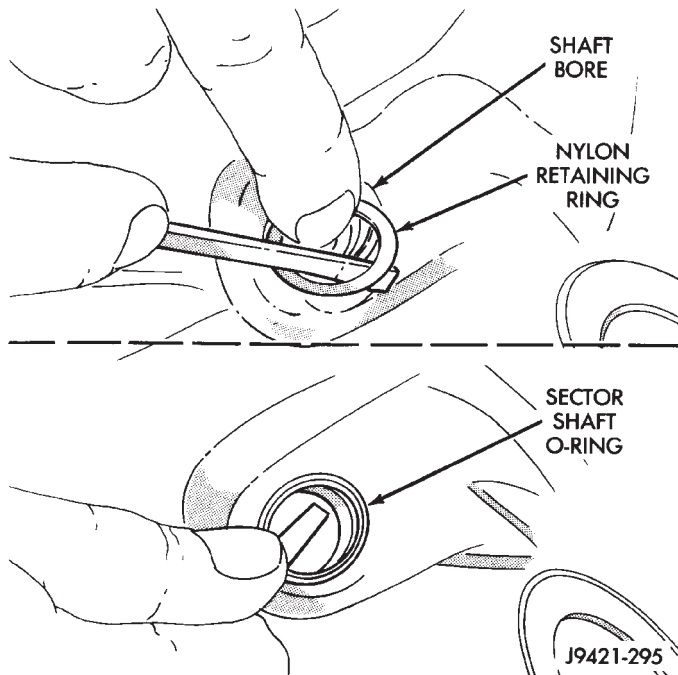

Fig. 38 Removing Sector Shaft O-Ring And Retainer
(10) Remove shift sector shaft nylon retainer and O-ring from shaft bore in front case (Fig. 38).